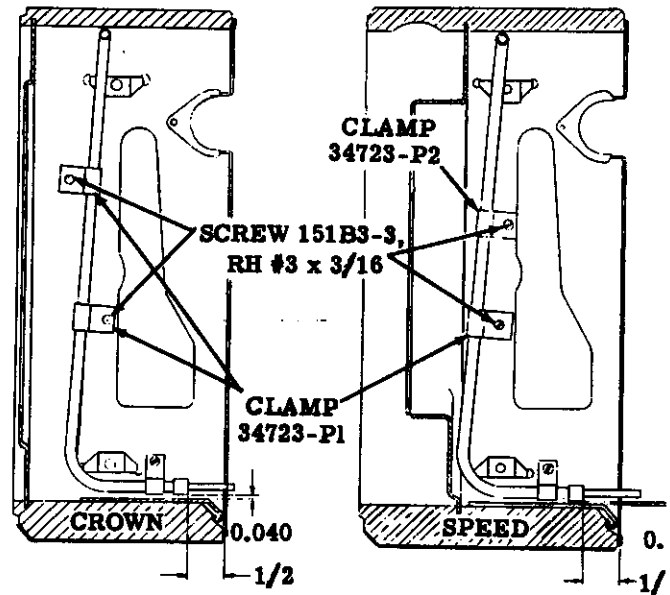

Figure 12. TUBE CLAMPS
- e. Tube Clamp. A second tube clamp has been added to hold the horizontal position of the tube more rigid. The figure below illustrate the location of the tube and its clamps (figure 12).